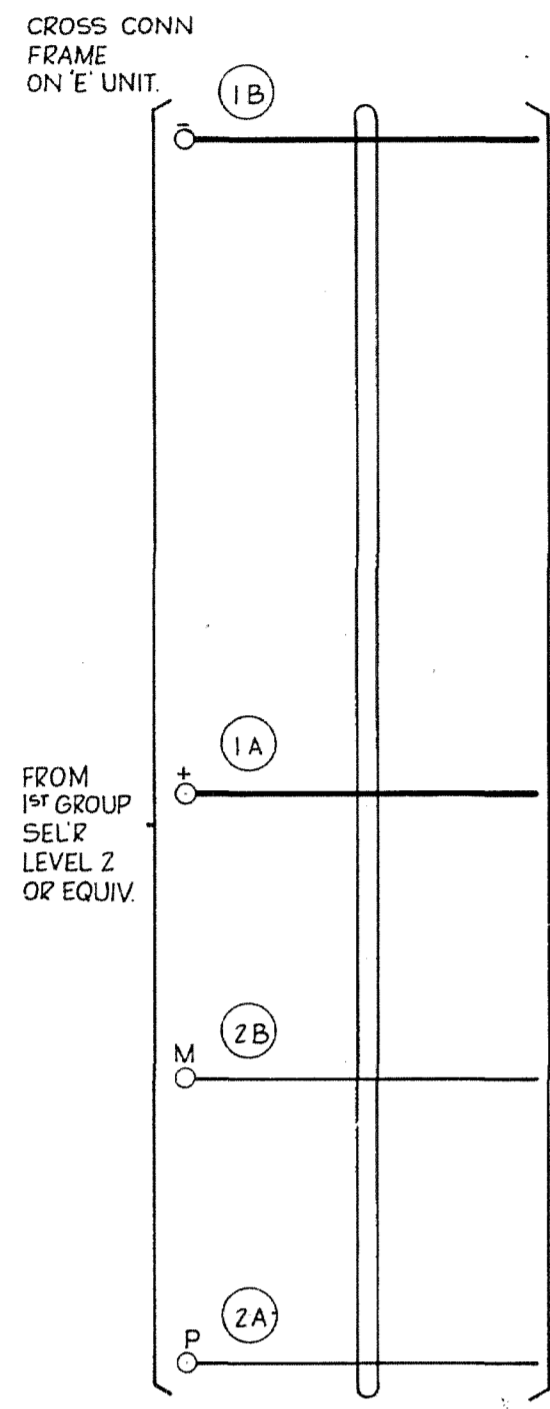

FIG. 3 (TRUNK OFFERING)
- WHEN SELECTOR IS USED TO TERMINATE AN INCOMING JUNCTION (I.E. NO INCOMING JUNCTION RELAY SET IS PROVIDED) THE FOLLOWING CONDITIONS APPLY:- (a) WHEN TRUNK OFFERING IS REQUIRED PROVIDE FIG. 3 & WRG-III-4 & DELETE STRAP U3 U11 (b) WHEN CONTROL OF ROUTE RESTRICTION ONLY IS REQUIRED PROVIDE FIG. 2 & WRG-III-4 & DELETE STRAP U3-U11 IN ALL OTHER CASES NEITHER FIG. 2 NOR FIG. 3 ARE PROVIDED & U3 IS STRAPPED TO U11.